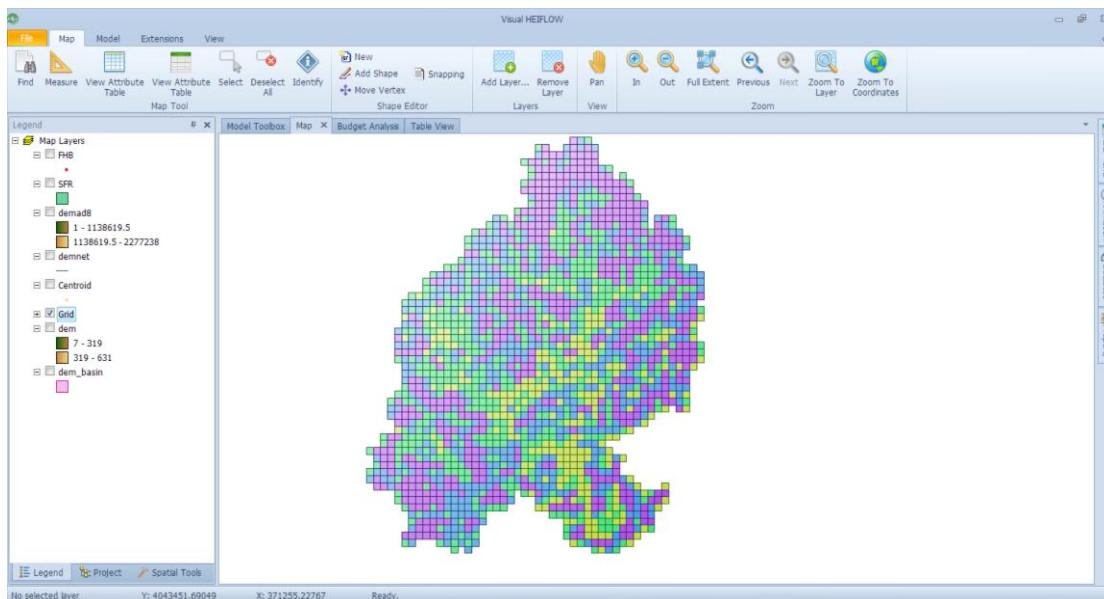

Figure 8-20. Spatial distribution of actual ET trend at daily time scale.
5) Click Run, then the spatial distribution of actual ET trend at daily time scale is shown in the map (Figure 8-20).